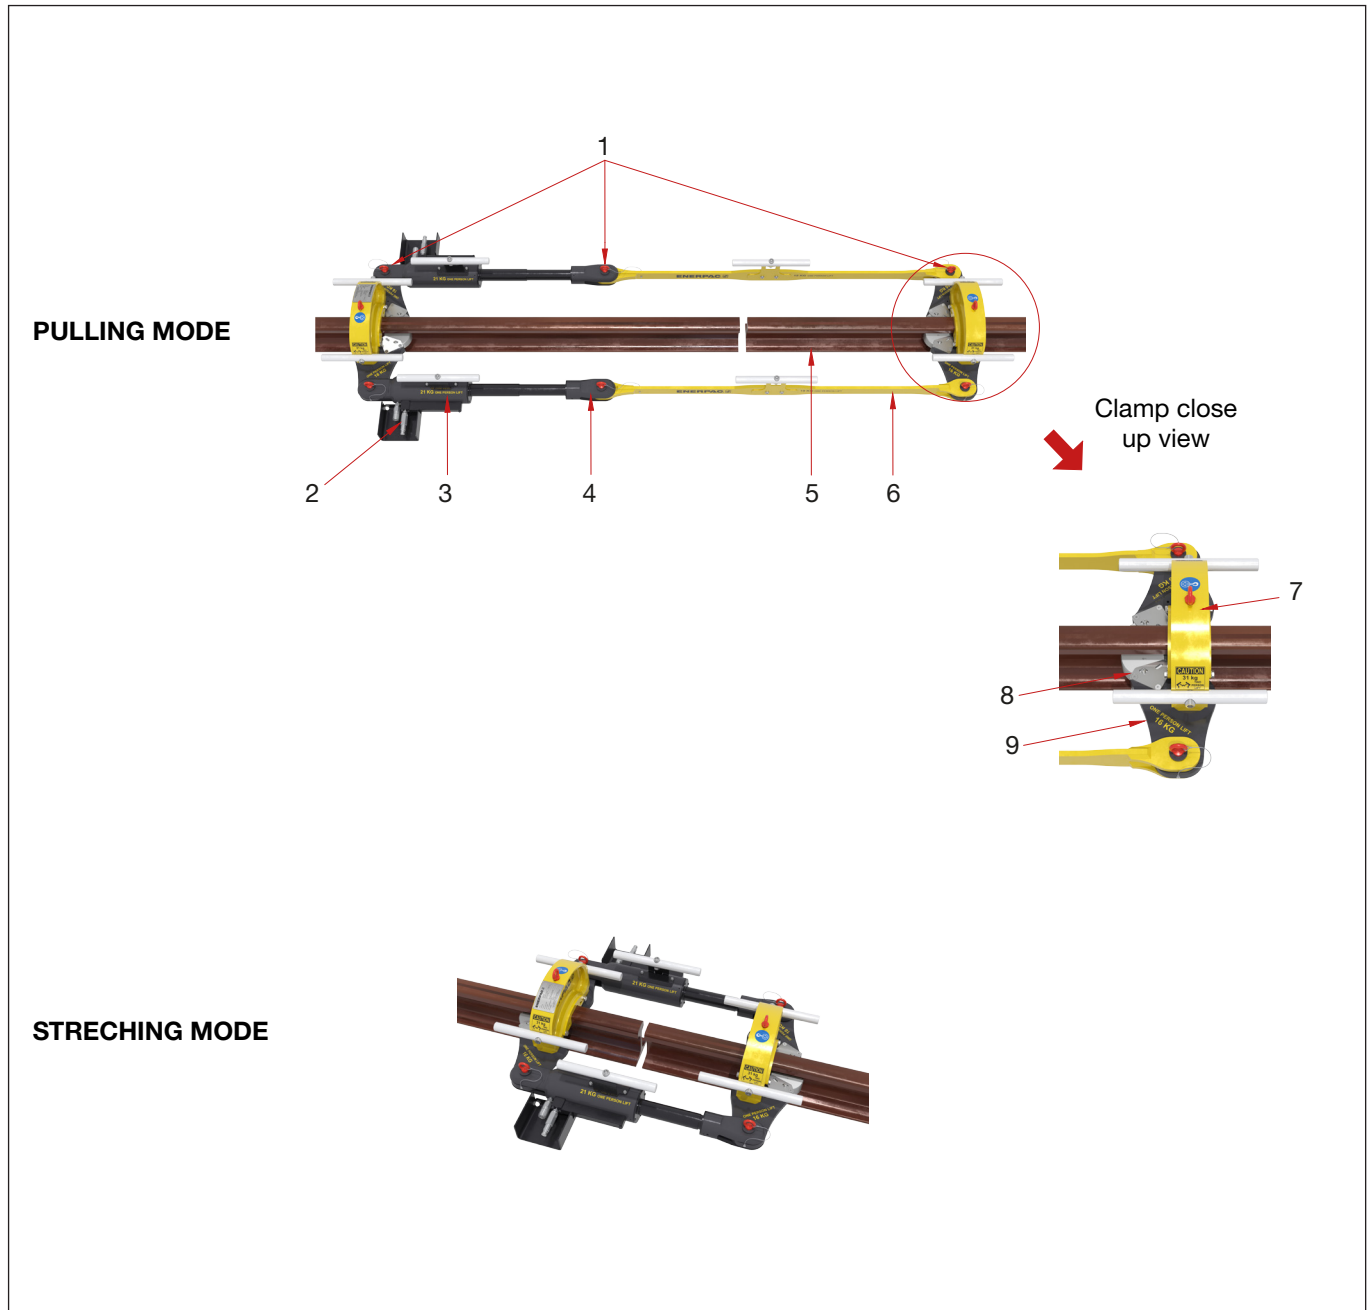

Figure 2: Major Features and Components of RP70A
The rail grips (Figure 2, item 8) are mounted on swing arms (Figure 2, item 9), which are attached to the clamps in a flexible way.